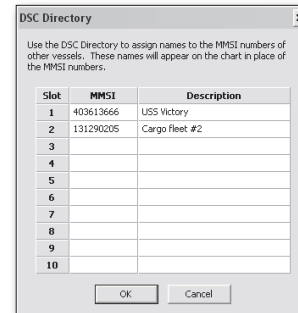

Figure 10.19 - DSC Directory
- **DSC Directory.** The DSC directory (Figure 10.19) is where you can input the MMSI Number and a description (or name) of vessels polled with your DSC radio. The description you input will appear on your charts instead of the MMSI Number. These settings can be saved for future use.